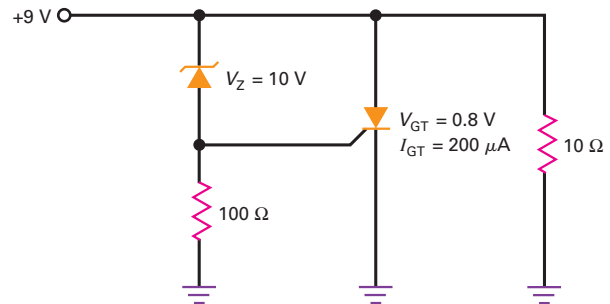

Figure 40-26
40.8 Calculate the supply voltage that triggers the crowbar of Fig. 40-26.
40.9 If the zener voltage in Fig. 40-26 is changed from 10 to $12\ \text{V}$, what is the voltage that triggers the SCR?